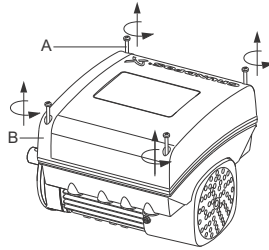

Fig. 59 Removing the terminal box cover
1. Loosen the four screws (fig. 59, A) and remove the terminal box cover (fig. 59, B).
11. Fit the terminal box cover (fig. 59, B) and cross-tighten the four mounting screws (fig. 59, A) to 6 Nm.